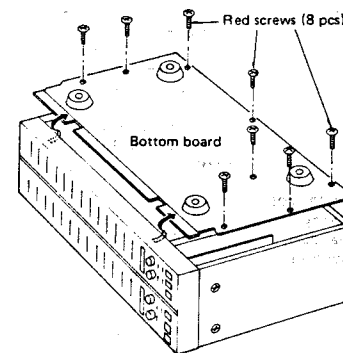

Fig. 1
1. Remove the 8 setscrews (red) as in [Fig. 1] to remove the bottom board.